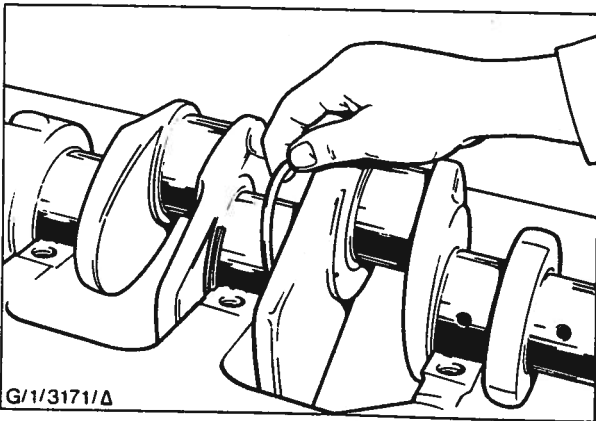

Fig. 48 - Installing Centre Main Bearing Upper Thrust Washers
15. Fit the centre main bearing upper thrust washers into position ensuring that the tongues are located in the anchor slots - see Fig. 48.